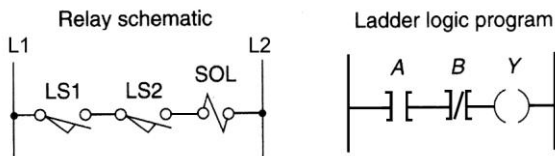

Figure 4-27 Program for assignment 7.
7) Program the relay schematic of Figure 4-27 using your PLC, and simulate its operation. The program is meant to turn on the output when LS1 is closed and LS2 is not closed.